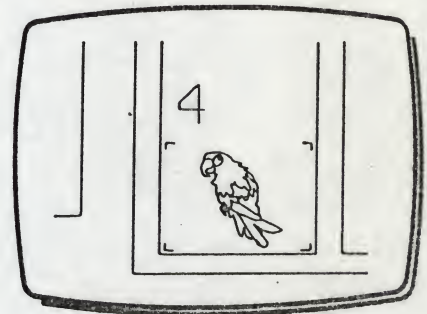

Fig 6
- 20 Move XY and rotate Z to position the cursor as (4) in Fig 6.